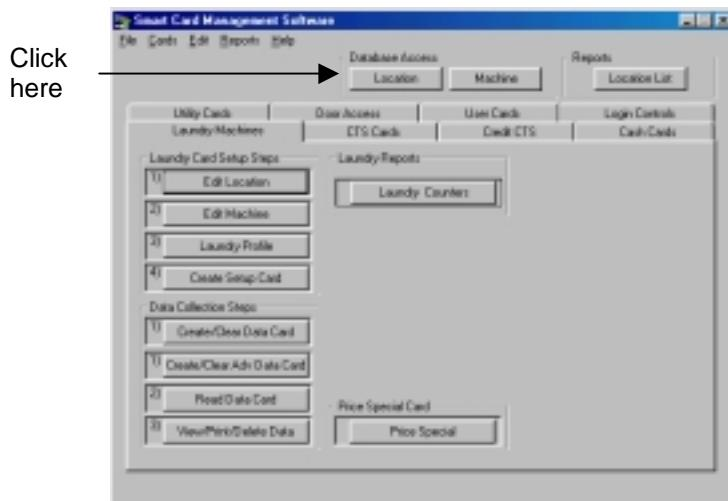

Figure 3.1 Locations
- After logging on to SMS2 (Section 2.2.5), click **Locations** in the main dialog box (Figure 3.1).